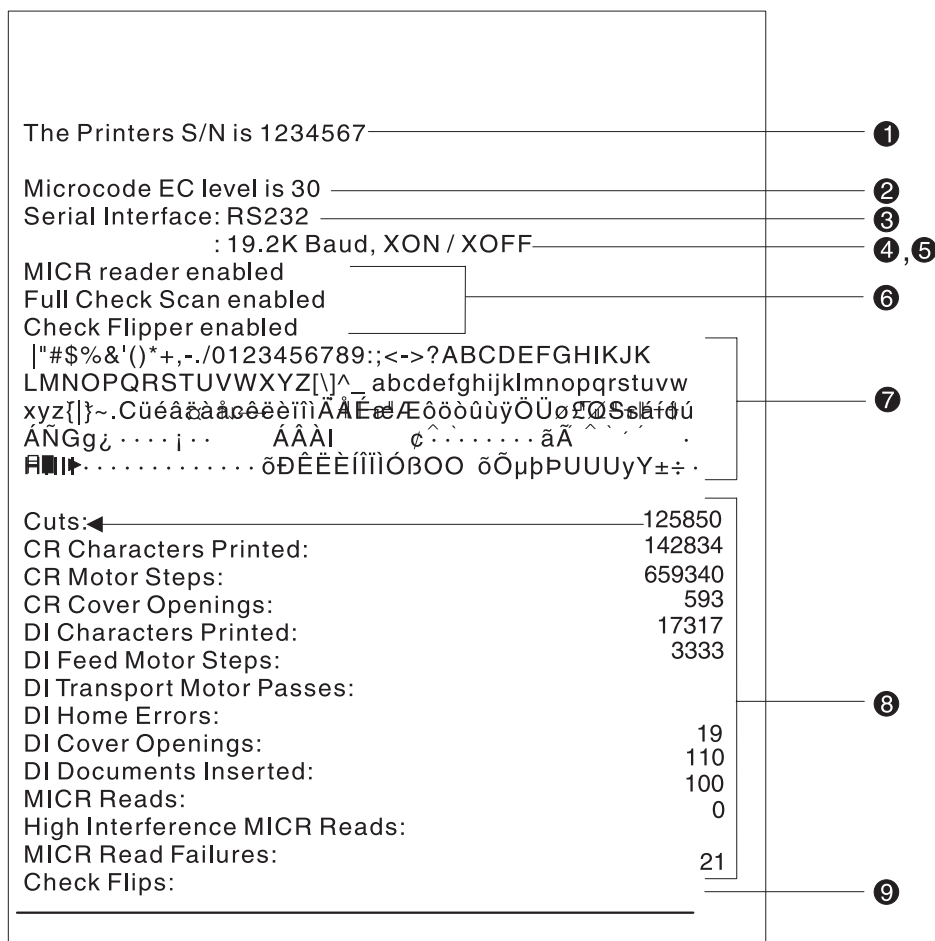

Figure 36. Offline printer test pattern from the customer receipt station (Models TI1, TI2, TI3, TI4, TI8, TI9, TG3, TG4, TG8, TG9)
3. See Figure 36 on page 64 and verify that your printer has printed correct information for your model and configuration:
If any characters that appear in Figure 36 on page 64 are missing from the test pattern that you print, or if the solid line is missing, go to “Problem determination” on page 67.
4. See Figure 36 on page 64 and verify that your printer has printed correct information for your model and configuration: